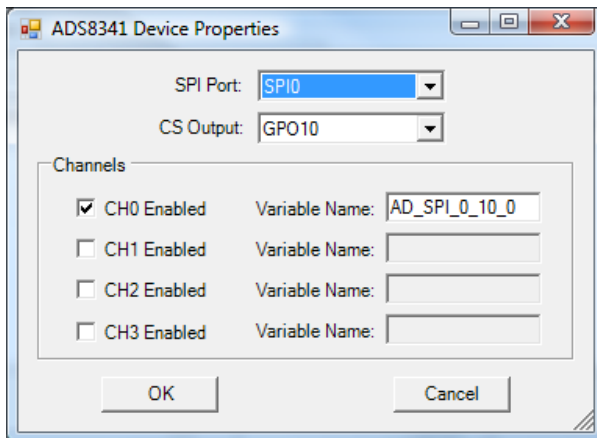

Figure 15-11
Select the SPI port from the drop down menu and select the general purpose output pin (GPO) that will serve as this device's chip select (CS). With these two devices selected, additional channel information will be available to configure. See Figure 15-11.
The ADS8341 supports up to 4 A/D channels. Using the provided check box, select the actual channels that will be used in the ladder diagram project. For each enabled channel, a default Variable Name is automatically created. This name may be changed in the variable name box at this time. See Figure 15-11.